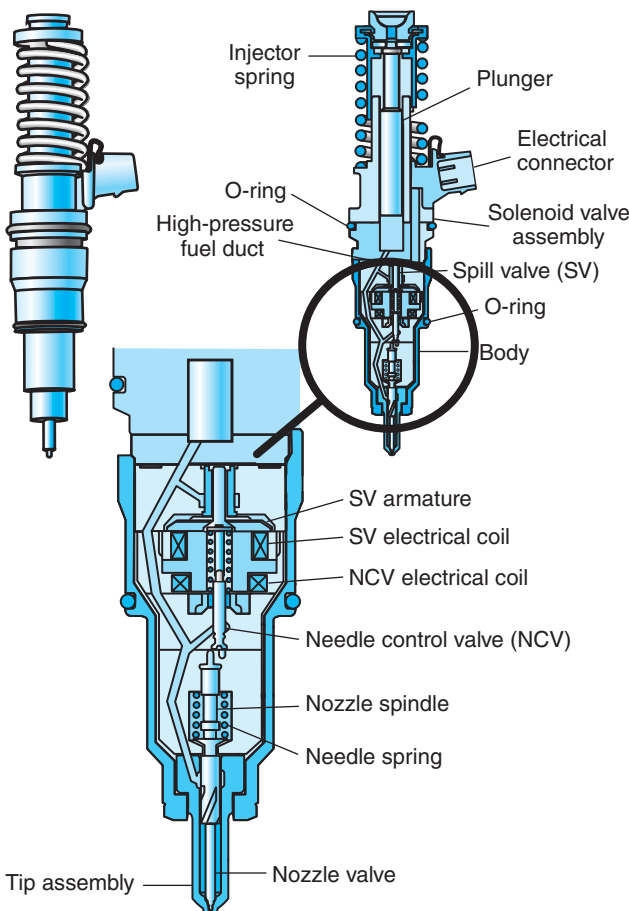

Figure 14-15 Delphi E3 dual actuator EUI.
Dual Actuator EUIs. One disadvantage of single actuator EUIs is that the NOP is still mechanically controlled. Dual actuator EUIs have two solenoids and two control valves; thus, these injectors typically have four electrical terminals. Dual actuator EUIs were introduced in North America in 2007. **Figure 14-15** illustrates a Delphi E3 dual actuator EUI. The electrically controlled spill valve (SV) works in the same way as described in the previous section for a single actuator EUI. The needle control valve (NCV) is